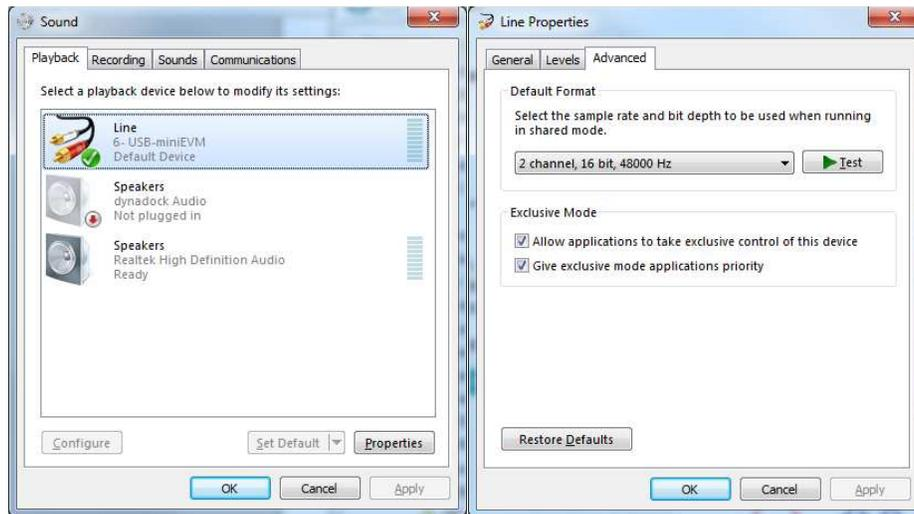

Figure 2. Setting Default Playback Device
5. Verify that the EVM is the default playback device by opening the sound dialog from the Windows Control Panel as shown in Figure 2.